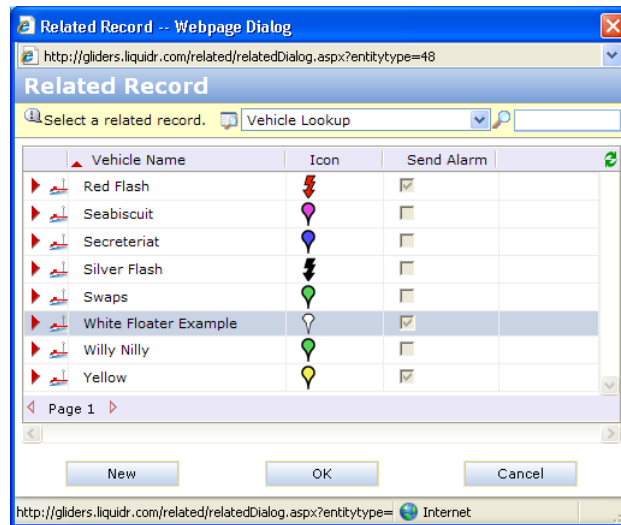

Figure 4-25: Copy-To Dialog Box (Polygons)
- 6) A new Related Record dialog page should come up, showing the current list of Vehicles (similar to Figure 4-25).